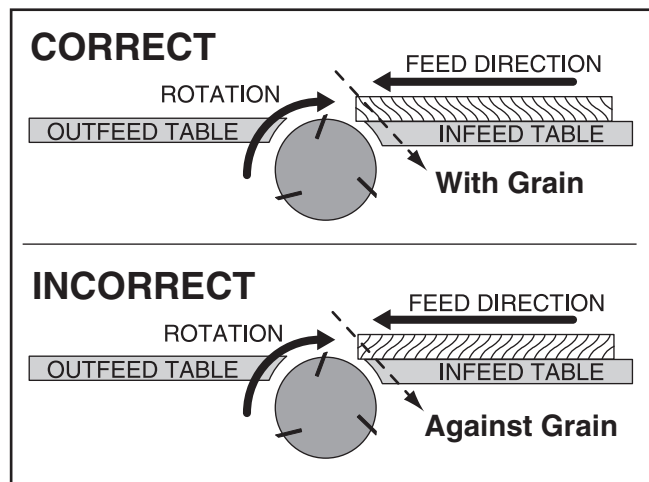

Figure 24. Correct and incorrect grain alignment with cutterhead.
- **Jointing and surface planing with the grain produces a better finish and is safer for the operator.** Cutting with the grain is described as feeding the stock on the jointer so the grain points down and toward you as viewed on the edge of the stock (Figure 24).